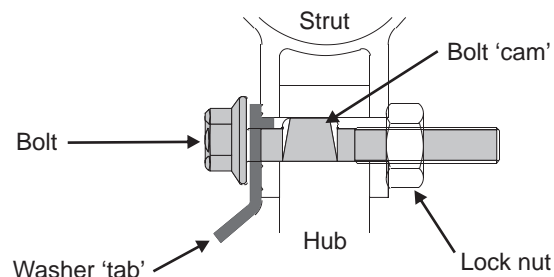

Fig 1. Positive Camber
- for positive camber adjustment, install with large tab towards wheel. Refer Fig 1.
- for negative camber adjustment, install with large tab towards wheel. Refer Fig 1.